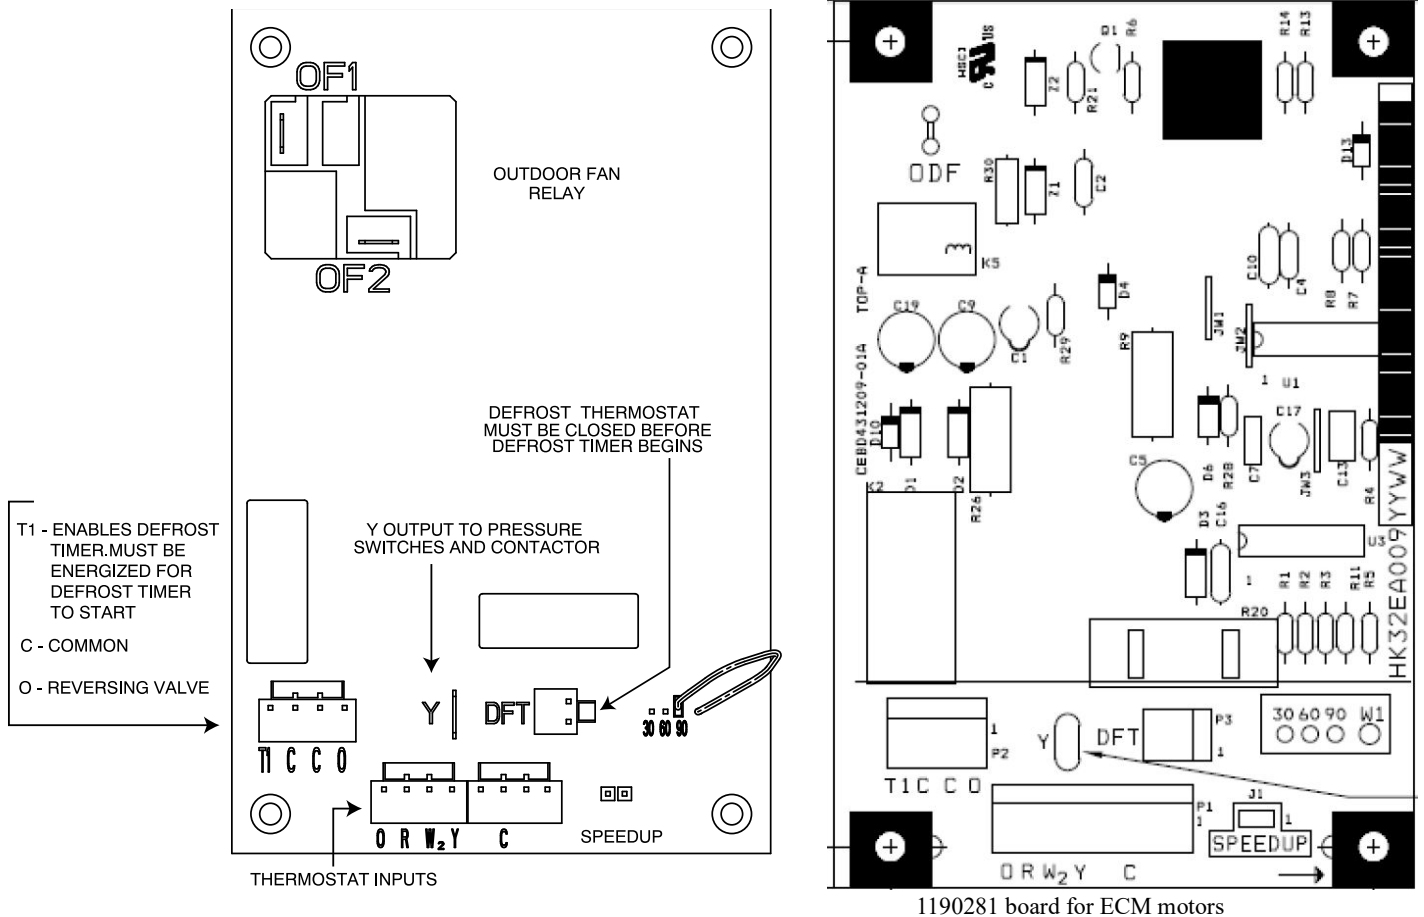

Fig. 8 – FAST # 1173636 / 1177927 / 1190281 Defrost Control
4. Jumper between DFT and R terminals on control board as shown in Fig. 8.